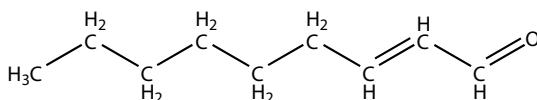

Figure 15.2 Trans-2-nonenal.
The best known staling compound in beer is trans-2-nonenal, officially (E)-2-nonenal (Fig. 15.2). This aldehyde gives a cardboard flavor at very low concentration. Other compounds with the carbonyl group (C=O), especially those that also have a C=C double bond, are also likely to contribute stale flavors. Trans-2-nonenal, if present during fermentation, accepts hydrogen atoms to give a nearly tasteless alcohol. Oxygen in packaged beer does not affect the production of trans-2-nonenal. It is possible that the compound is formed earlier in brewing, gaining protection from the fermentation process by binding to amino acids, and is then released during storage of the beer.